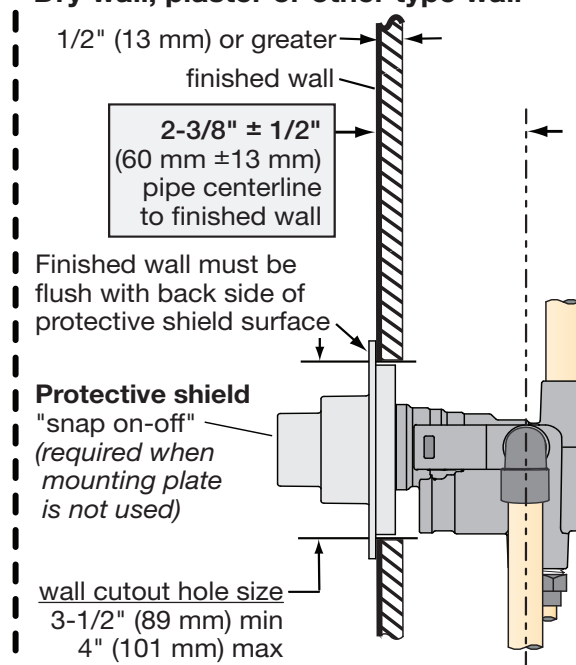

Figure 2 Mounting valve
- Consider whether to use mounting plate by reviewing figure 2 below.
- Reference figure 2 to determine whether shield is required.
Install through cutout hole in wall as specified in figure 2 below and dimension illustration on page 3.